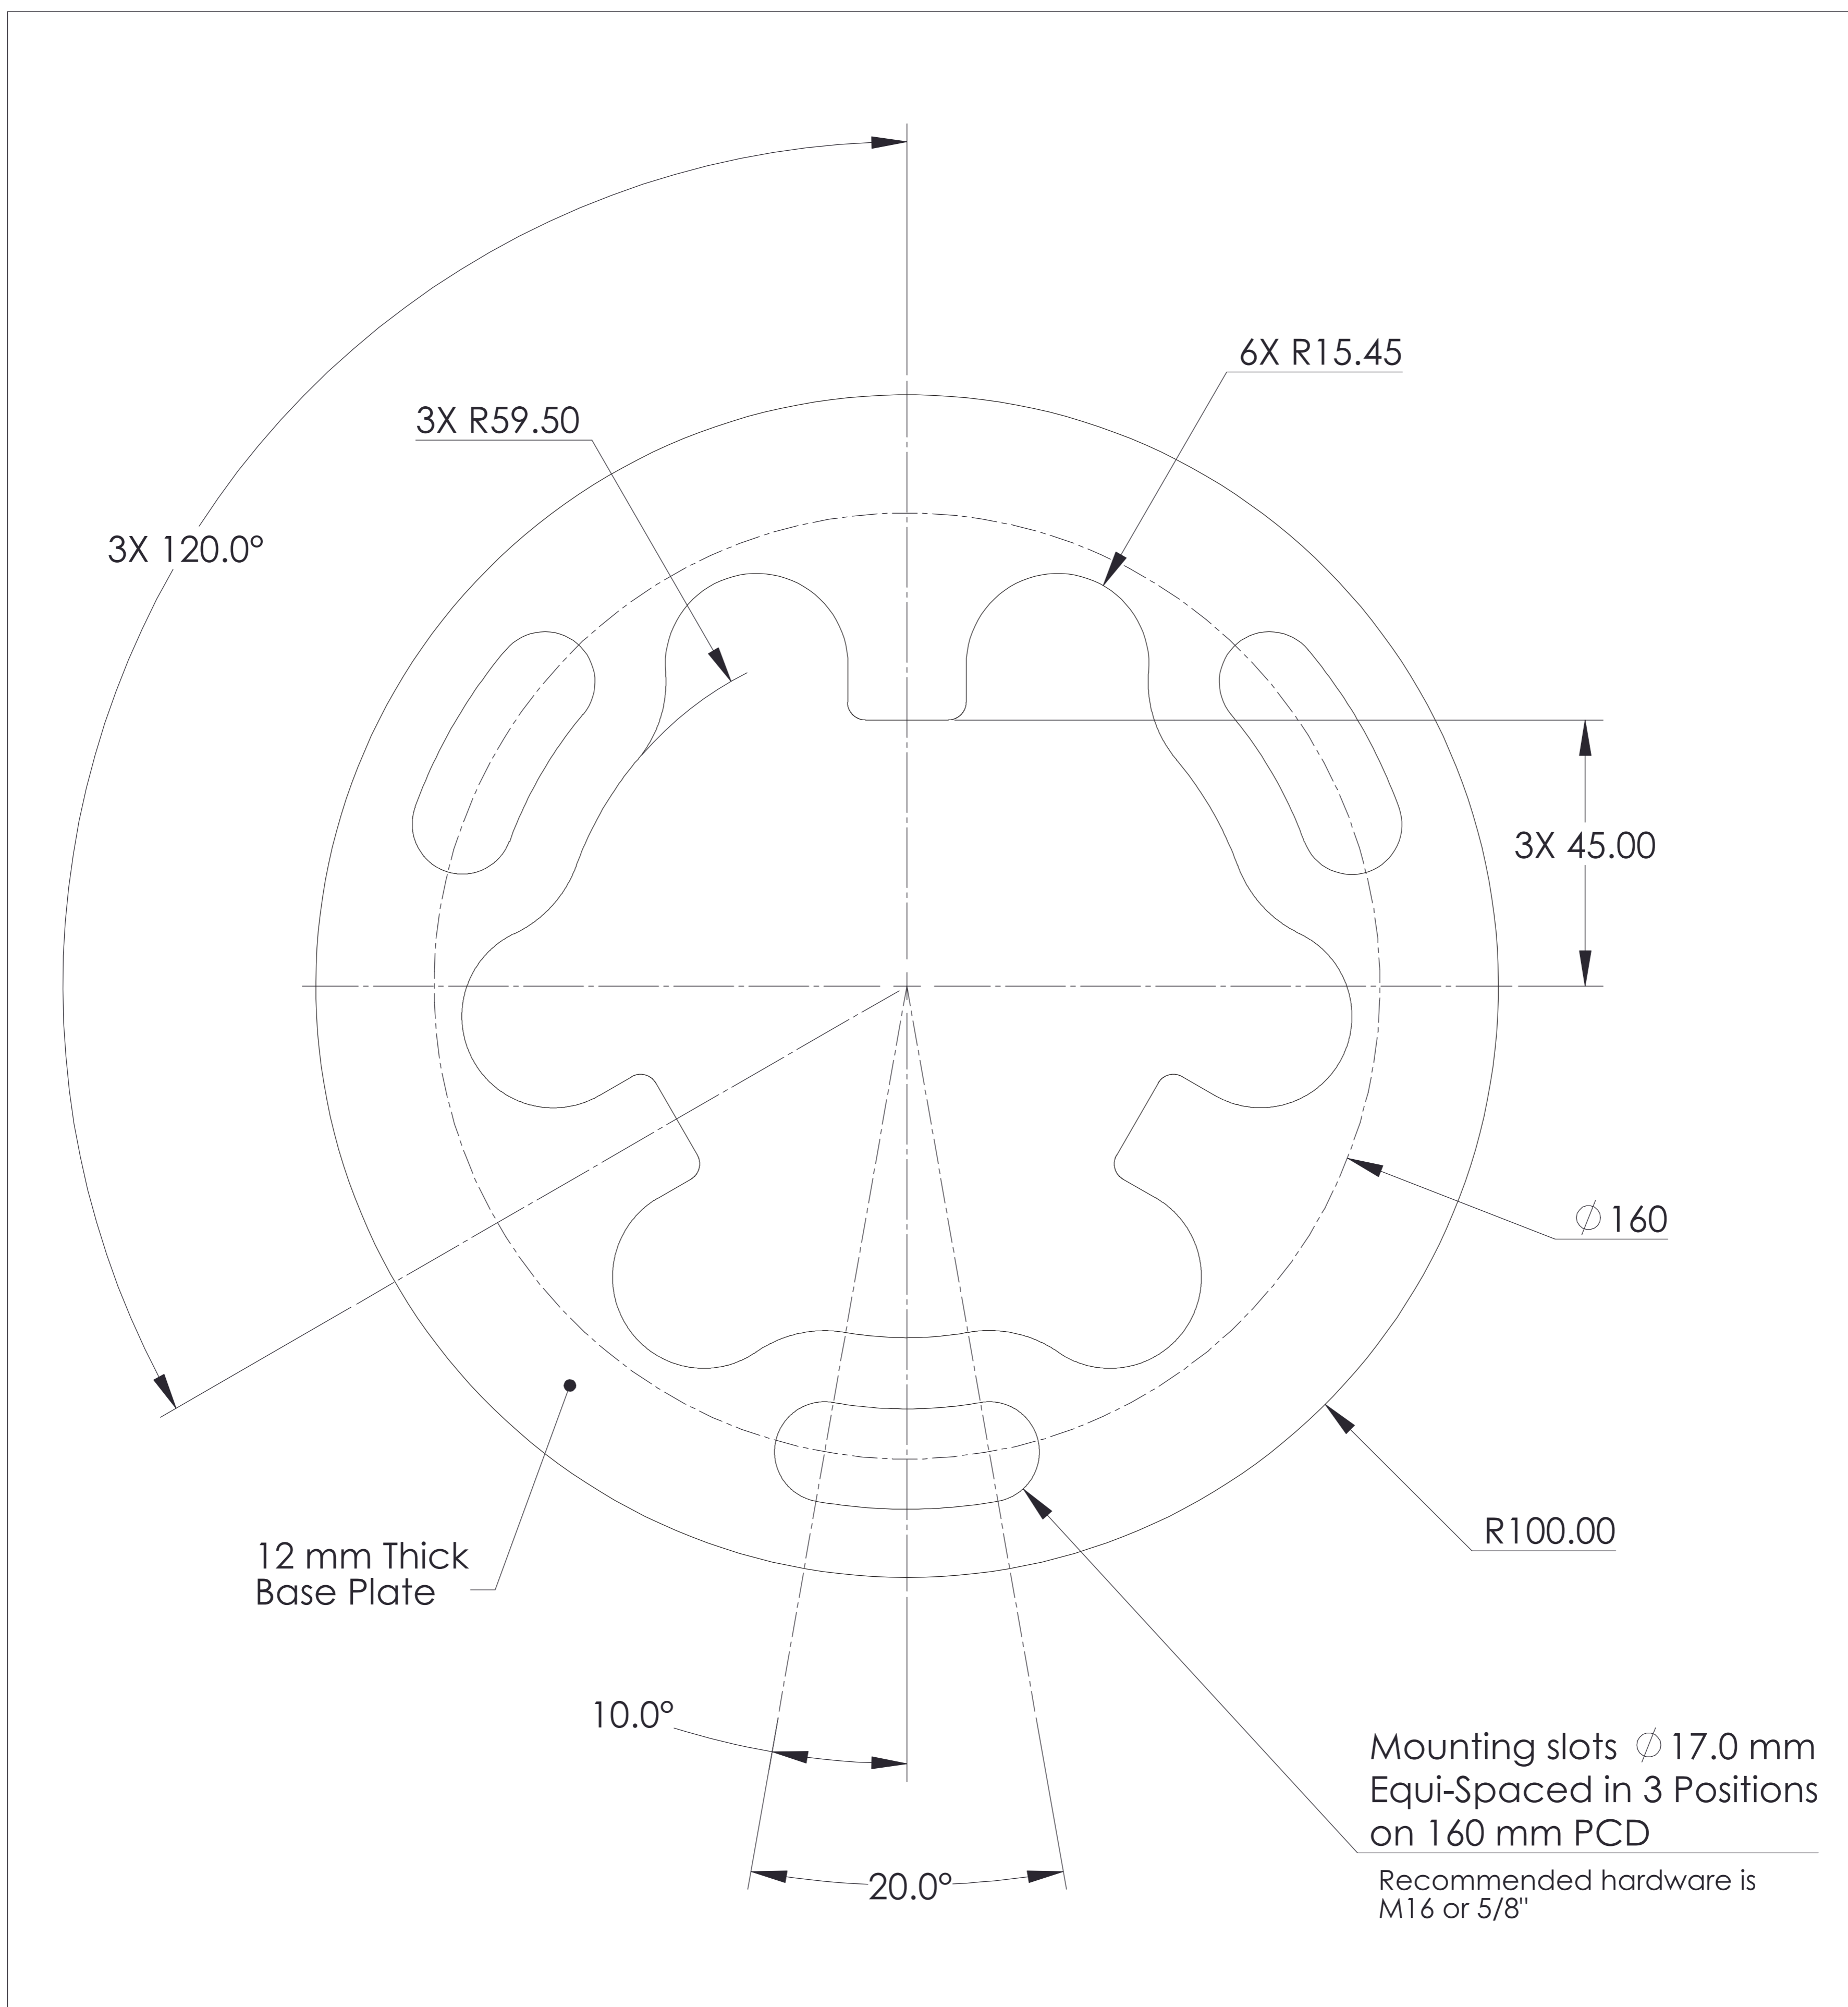

Figure 3. Mounting and Cable Routing Holes on Base.
- Refer to Figures 3, 4 and 5 for mounting and boresite alignment. It is recommended that the mounting holes be marked and made ready in the mounting surface prior to installing the antenna.
Route RF cable along metal rails, etc. as much as possible, to enhance noise and lightning immunity. The antenna base provides openings that can be used to route cable through the base when mounting on a monopole (Figure 3).